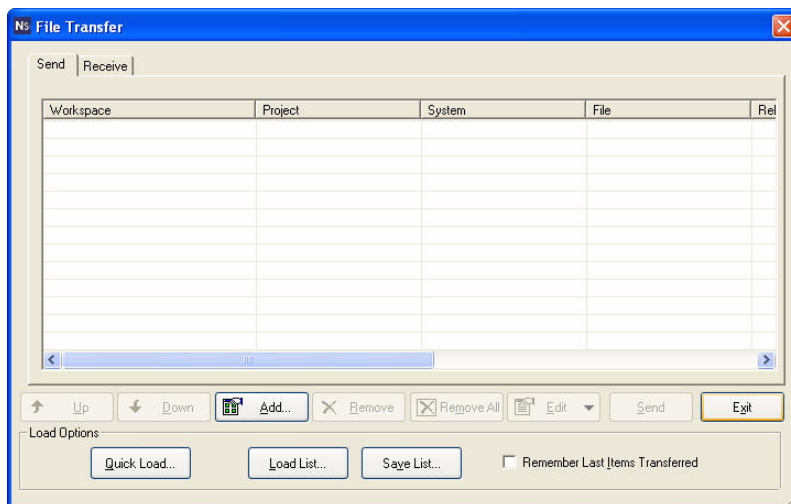

FIG. 63 File Transfer dialog (NetLinx Studio)
1. Choose **Tools > File Transfer** to open the File Transfer dialog (FIG. 63).